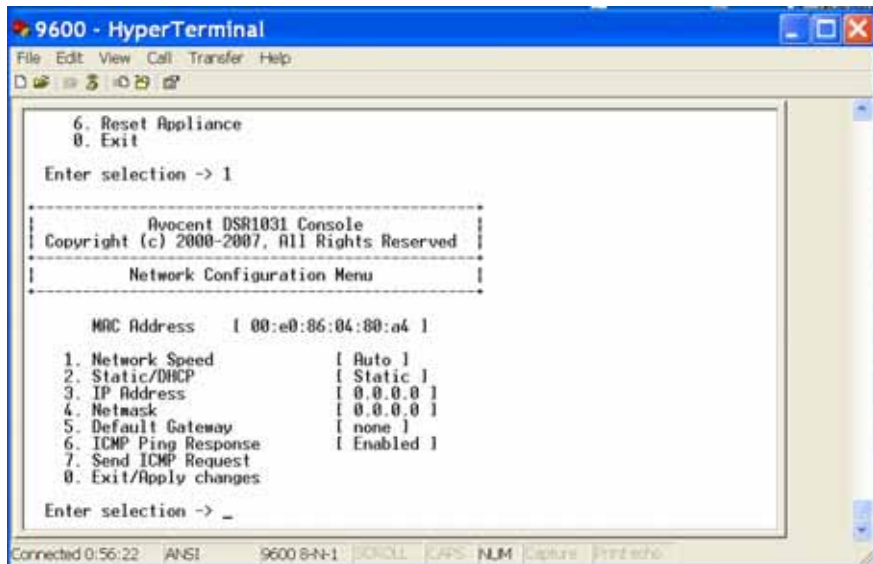

Figure 6.2: Network Configuration Menu
2. Once the Console Main menu displays, type the number corresponding to *Network Configuration* and press **Enter** to access the menu shown in Figure 6.2.